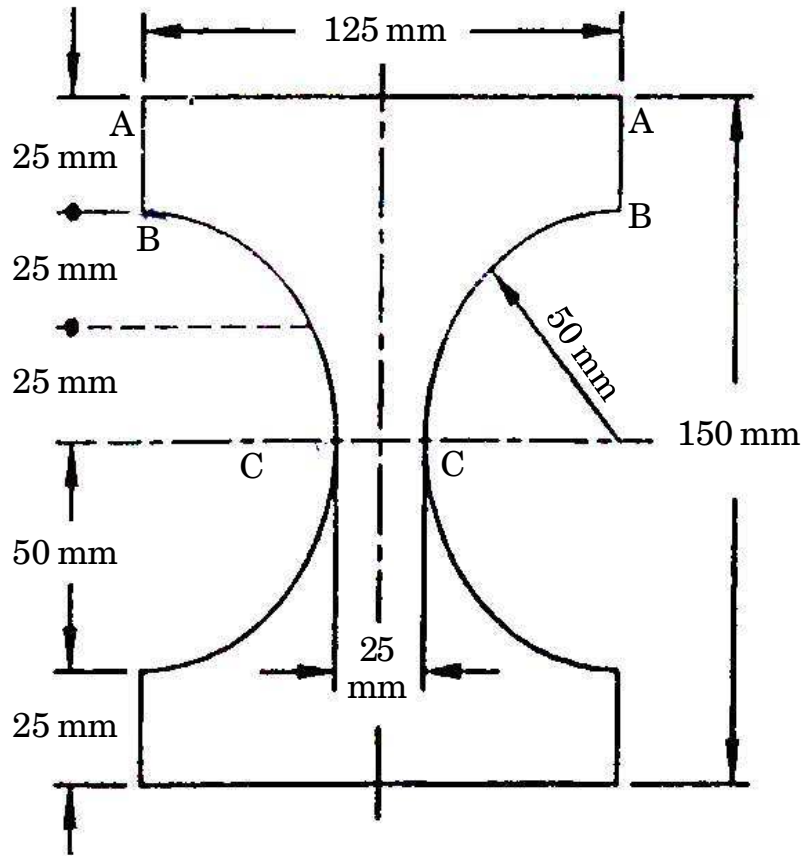

Fig. 9
- (b) For a section shown in Fig. 9, determine the shearing stresses at A, B, C for a shearing force of 200 kN. [8]